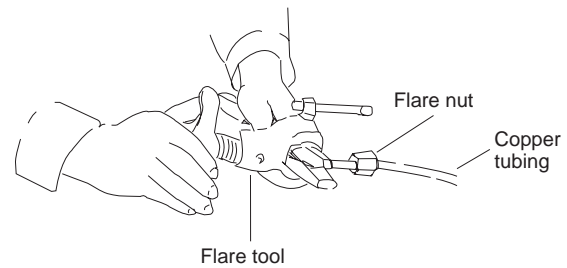

Fig. 11
- (3) Remove the flare nut from the unit and be sure to mount it on the copper tube.
- (4) Make a flare at the end of copper tube with a flare tool.* (Fig. 11)